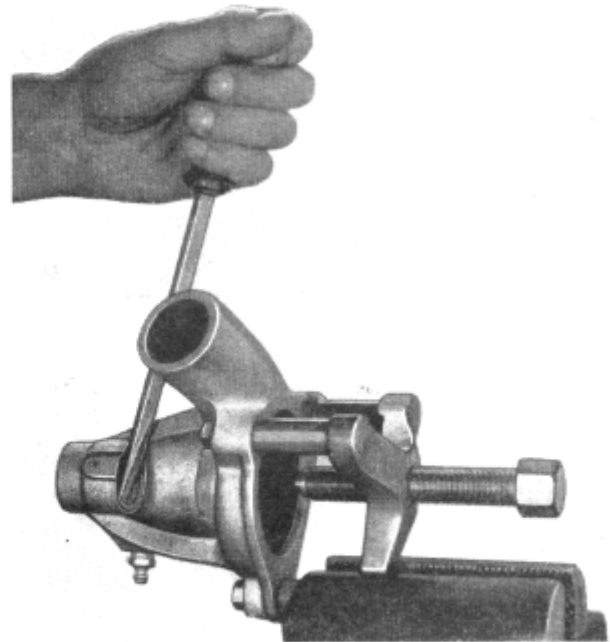

Figure 6
(7) Fig. 6—Pry out front bearing oil seal with screwdriver.